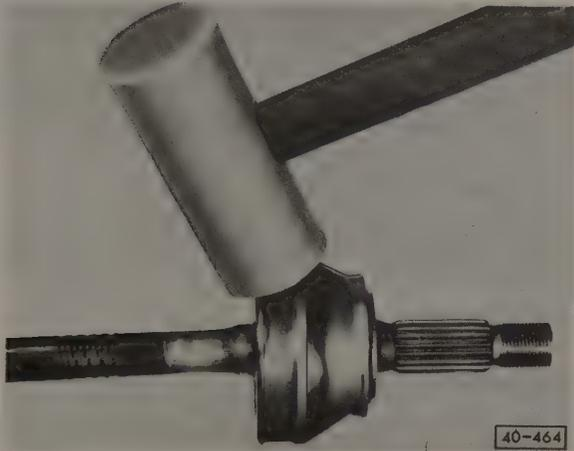

Fig. 5-5. Outer CV joint being driven off axle shaft with soft-faced mallet (shown with boot removed for clarity).
- Clamp the shaft in a vise, and drive the joint off the shaft, as shown in Fig. 5-5, using a soft-faced mallet. Remove the thrust washer, the dished washer, and the circlip from the axle and inspect the shaft for wear.